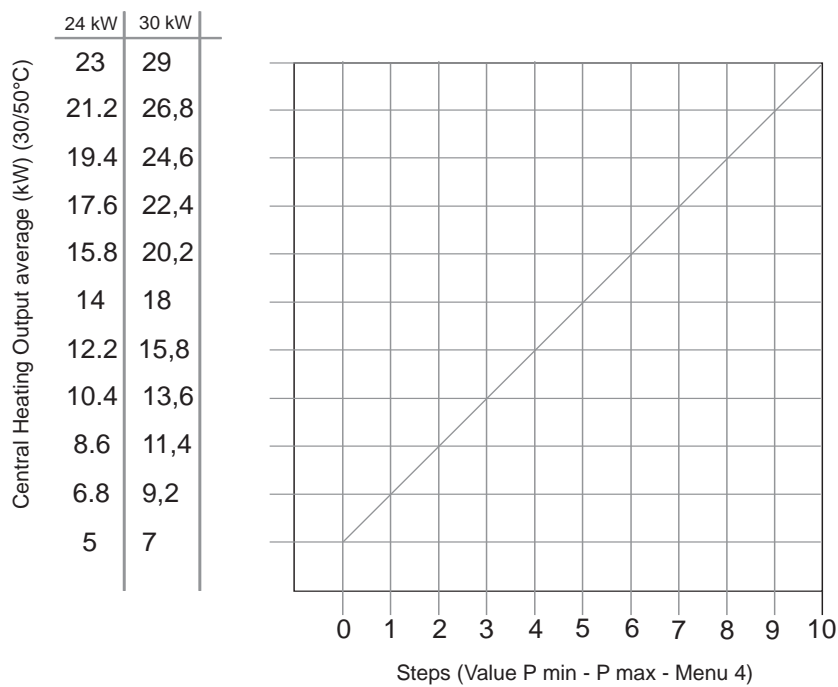

Fig. 42
5. Range rate the thermal power for central heating as detailed in Section 14.5. To adjust the maximum heating power it is necessary to follow the steps in Section 14.5 Menu 4. and adjust in relation to the chart on Page 35 (Fig. 42);